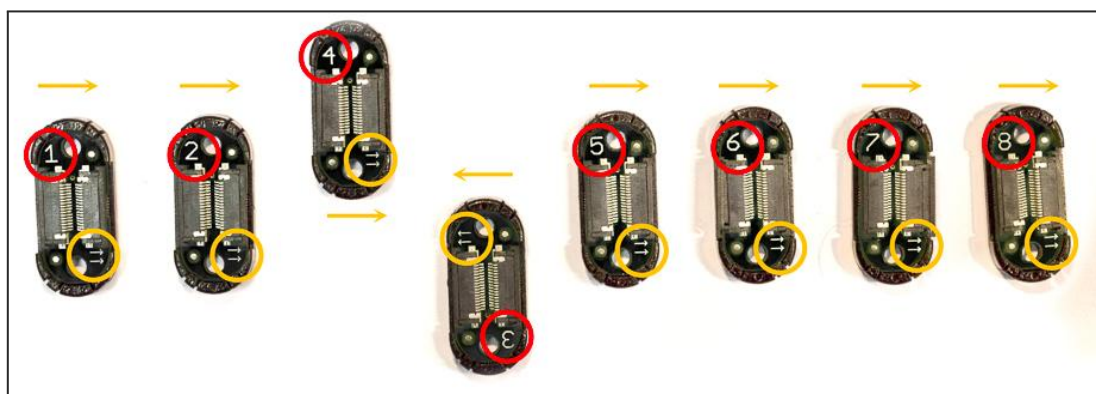

Figure 6. Incorrect sensor order and direction
*TeraRanger Multiflex will not stream distance data if any of the sensor units are connected in the wrong order or direction. See example in Figure 6.*